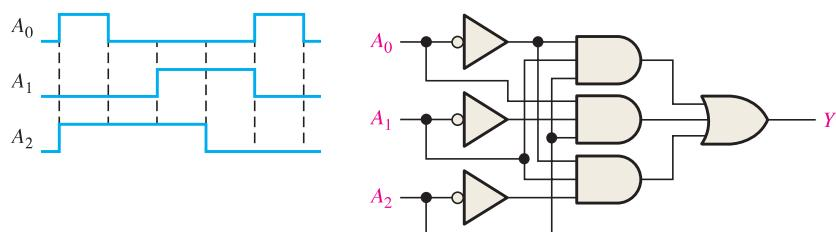

FIGURE 6–76
18. Solve Problem 17, given that an active-LOW (0) output is required.
20. If the input waveforms are applied to the decoding logic as indicated in Figure 6–76, sketch the output waveform in proper relation to the inputs.
21. BCD numbers are applied sequentially to the BCD-to-decimal decoder in Figure 6–77. Draw a timing diagram, showing each output in the proper relationship with the others and with the inputs.
22. A 7-segment decoder/driver drives the display in Figure 6–78. If the waveforms are applied as indicated, determine the sequence of digits that appears on the display.